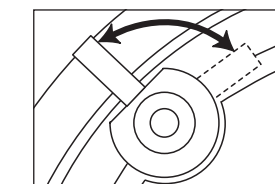

Figure 3. Mounting “dog” rotation.
1. You will find two loudspeakers bagged in a lower portion of packing. Remove the loudspeakers from the bags. The metal grille is installed on the loudspeaker and will need to be removed. This is easily done by rotating the mounting ‘dogs’ out with your fingers and pulling them towards the front of the loudspeaker. This will push the screw heads against the inside of the grille to work it out of the baffle. (See **Figure 3**)